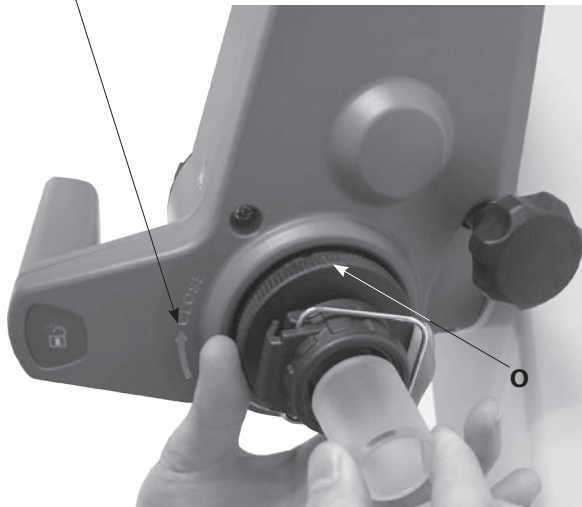

Fig.14a
- Open the locking device (**O**) on the drive head by turning it 60° counterclockwise. (Fig.14a)